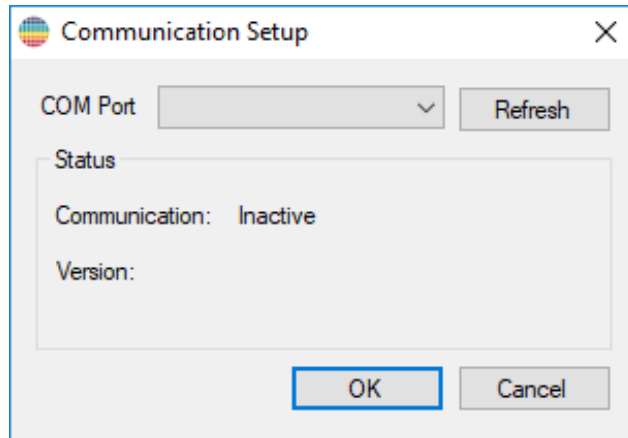

Figure 4: Communication Setup Dialog Box
3. On the Setup pull down menu, select **Communications Setup...** The Communications Setup dialog box will appear (see Figure 4)